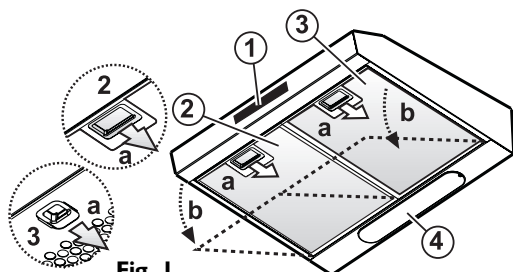

Fig. 1
2. Open the extractor grille or remove the self-supporting grease filter (depending on model). **Fig. 1 (a-b).**
2. Open the extractor grille or remove the self-supporting grease filter (in this last case wash the filter immediately). **Fig. 1 (a-b).**